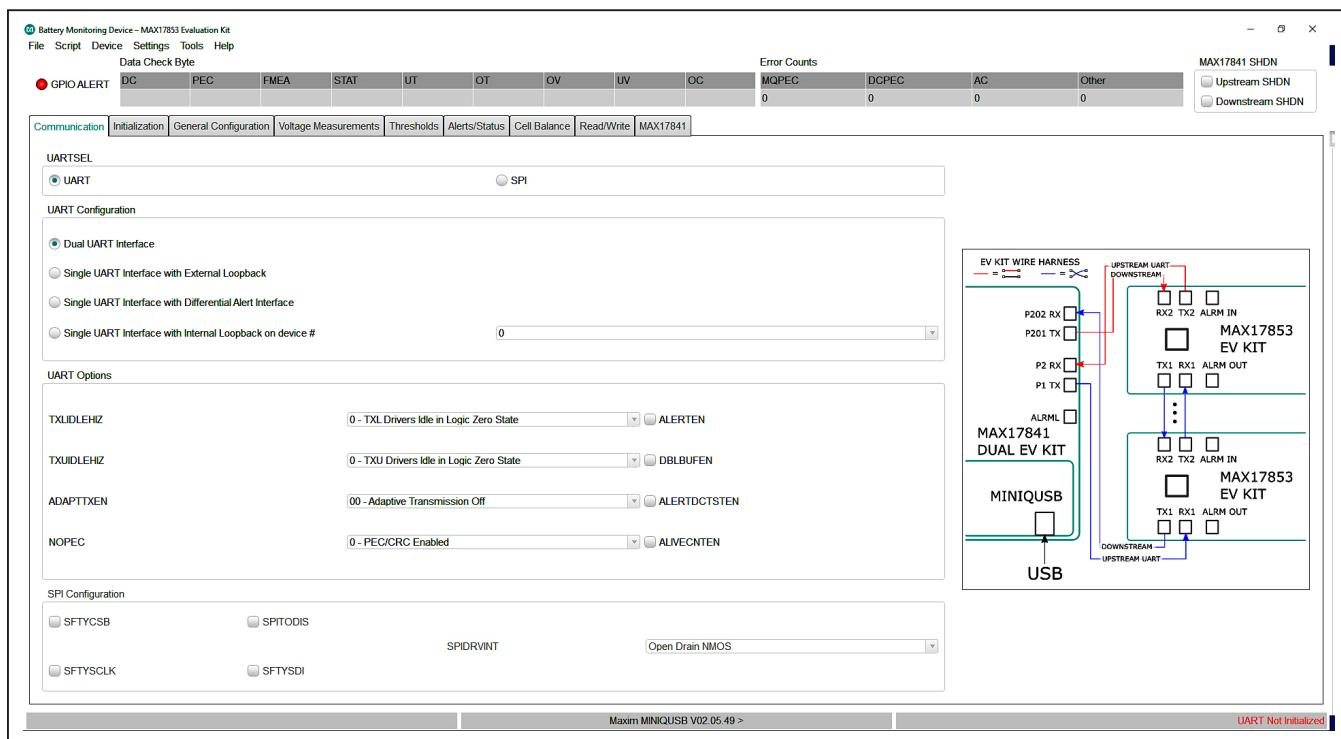

Figure 8. Communication Tab
- 12) Start the MAX17852 EV kit software by opening its icon in the Start Programs menu. The EV kit GUI software automatically establishes communication with the Maxim MINIQUUSB+ interface. The status bar at the bottom of the GUI displays **Maxim MINIQUUSB+ V02.05.xx** and **UART Not Initialized** (see Figure 8). With the MINIQUUSB detected, the user can proceed to the next step.
- 13) In the **Communication** tab (Figure 8), click on the **Single UART with External Loopback** radio button.
The GUI startup cockpit is designed to guide the user through hardware setup and provides overall startup system information. At startup, the GUI automatically initializes and establishes communication with the Maxim MINIQUUSB+ interface board and places the user on the **Communication** tab (see Figure 8). UART status is shown in the lower-right corner of the cockpit.
The GUI is preset to UART communication with a dual UART interface (see Figure 8). When selecting the UART configuration, the hardware graphic updates to reflect the
Located in the **Communication** tab (Figure 8) is the **UART Options** group box. Options set in the **UART Options** group box control TXL and TXU idle state impedance, adaptive transmission setting, and packet error check (PEC). The user can also enable and evaluate the alert function, double-buffer feature, UART DC diagnostic test, and control the alive-counter bit (ALIVECNTEN).